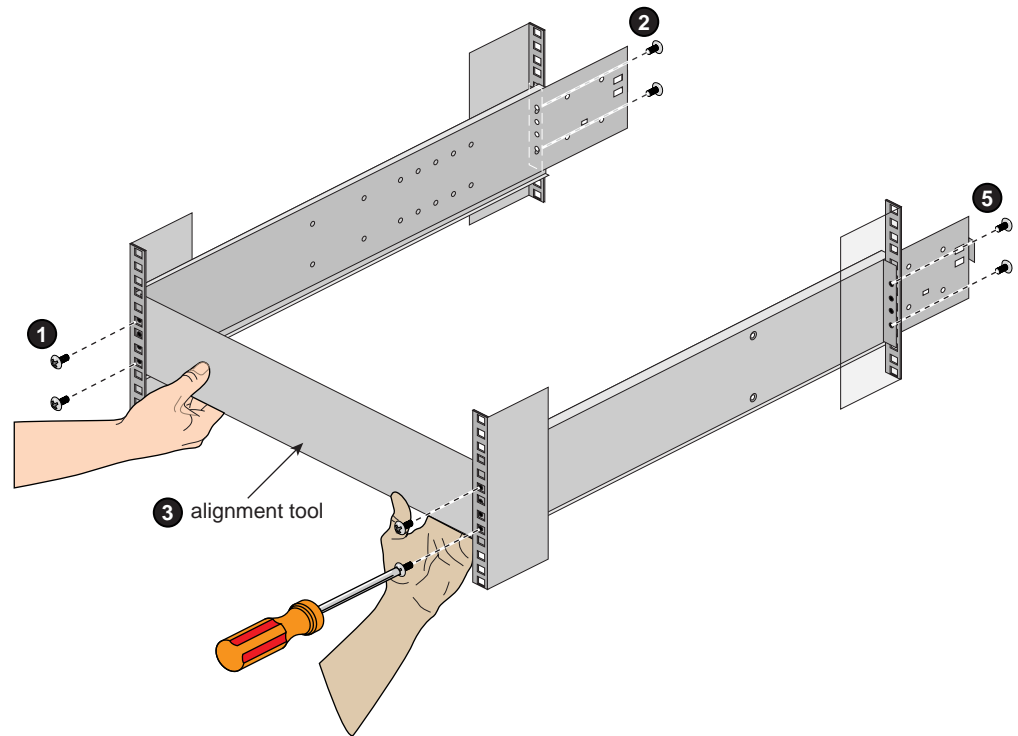

Figure 2-9 Adjustment Using the Alignment Tool
3. Adjust the right rail until it is flush with the alignment tool and the left rail. Insure that the tool can be slid smoothly from the front to rear of the rack. This step is also best accomplished with two people, as shown in Figure 2-9 on page 27.